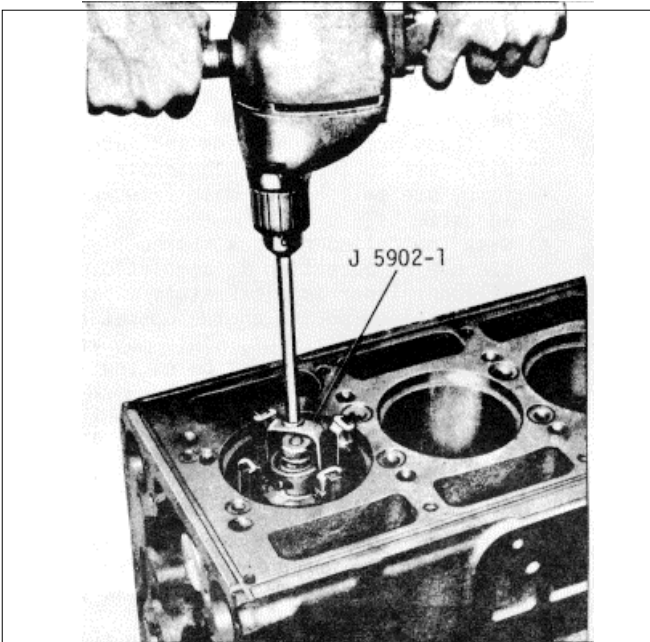

Fig. 10
- (b) Insert the hone in the bore (Fig. 10) and adjust the stones snugly to the narrowest section. When correctly adjusted, the hone will not shake in the bore, but will drag freely up and down when the hone is not running.